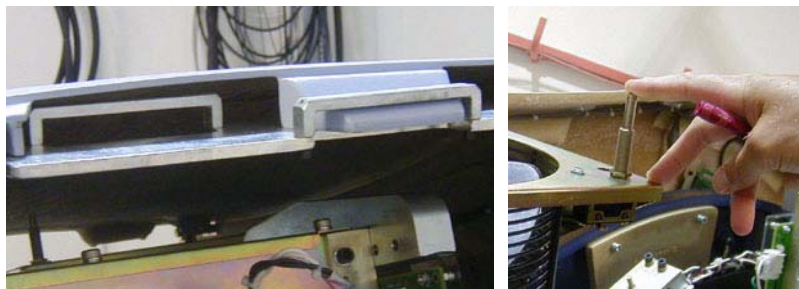

Figure A-4 Top cover tabs and bracket, plus fan interlock switch.
- 3.) Slide the cover down 75 millimeters. This allows the cover's tab to disengage from the mounting bracket. See Figure A-4.